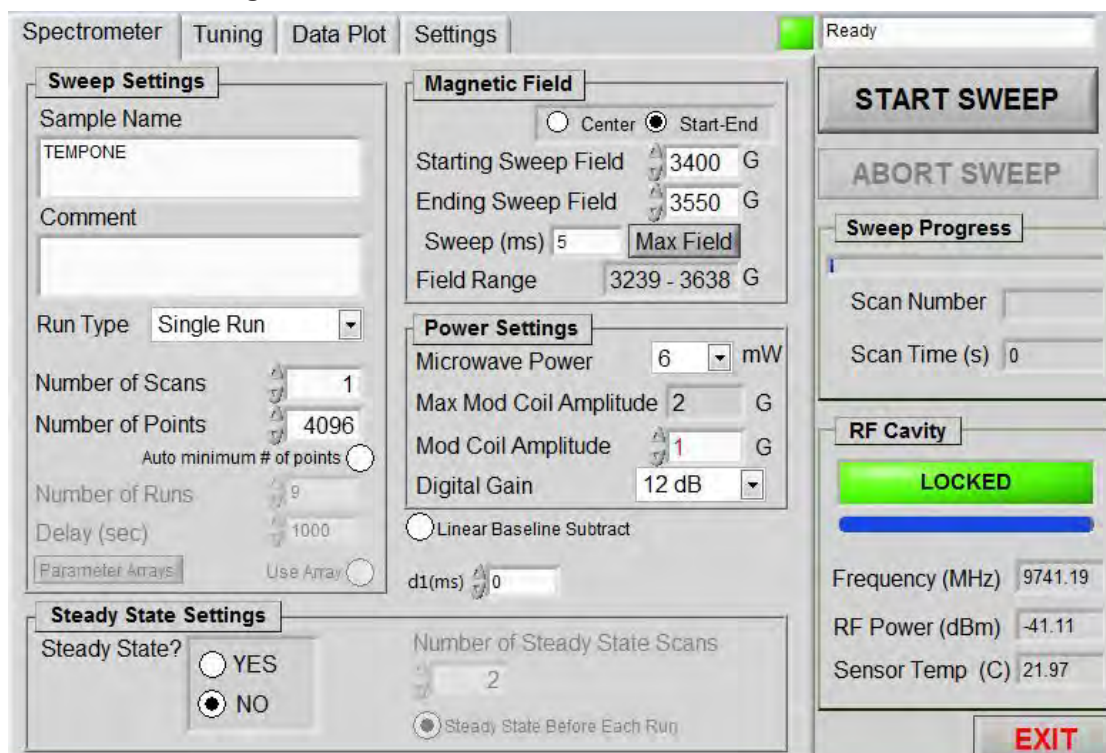

Figure 6.3: Spectrometer Tab in the uESR Control Software
- Select the **Tuning Control** tab (see [Figure 6.3 \[ 27\]](#)).